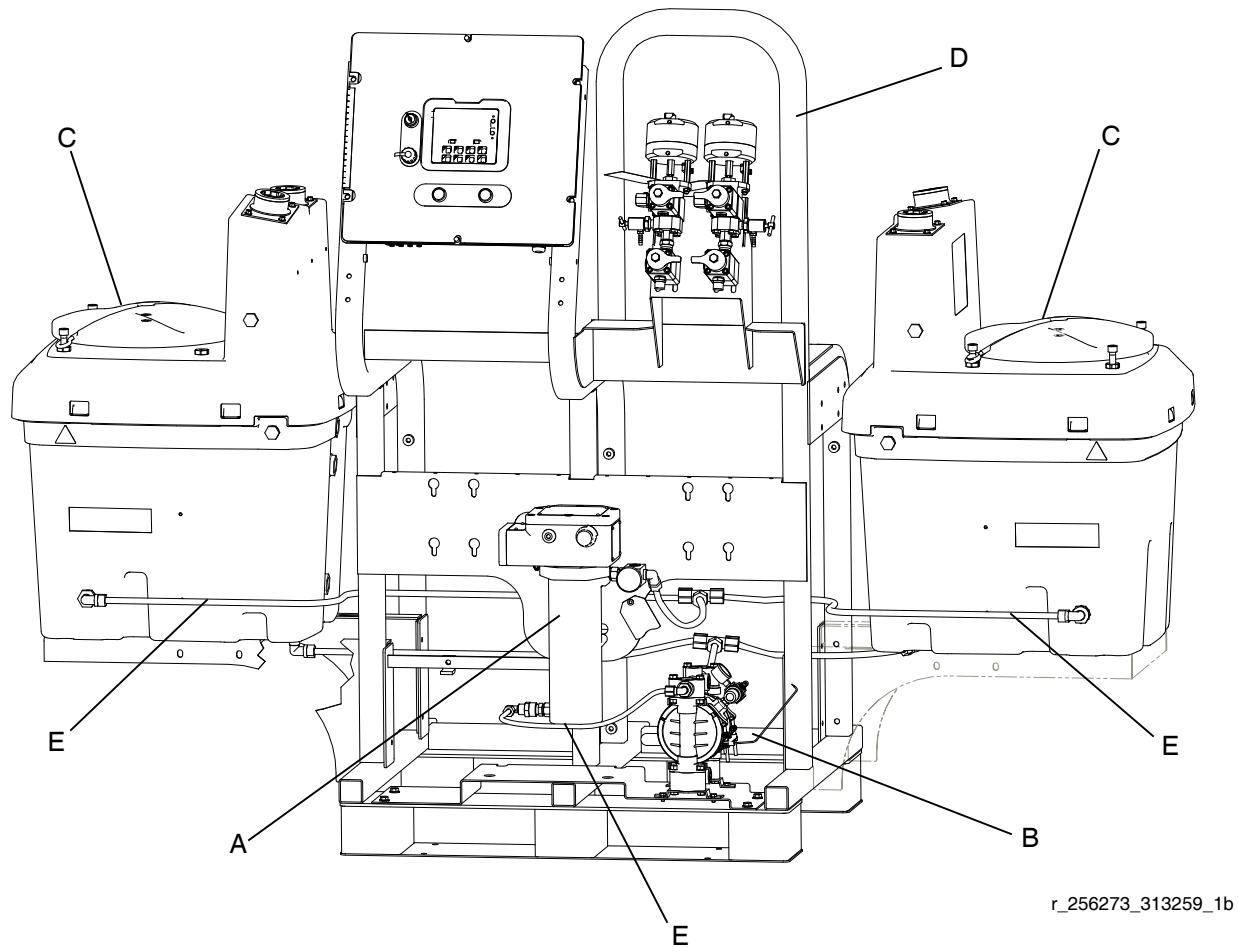

FIG. 1: Heat Only Hoppers Configuration
- Circulate water through the heater and only the hoppers. See FIG. 1, page 8.